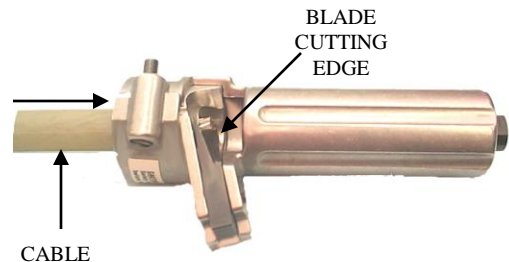

Fig. 4
**Step 4.** (Fig. 4) To strip the insulation, insert the cable into the WS5 until it comes in contact with cutting edge of the blade. Always check the blade position with respect to the conductor, before stripping the insulation.